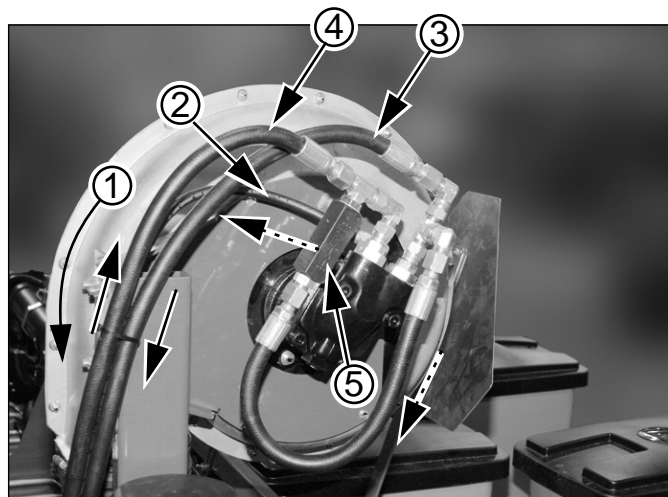

Figure 22
**Fan Circuit Operation (S/N-)****Applies to planters with serial numbers:****(YP3P425A s/n B1004M-)****(YP3P625A s/n B1006P-) (YP3P825A s/n B1007R-)**See also “**Fan and Adjustment**” on page 43.**Refer to Figure 22**